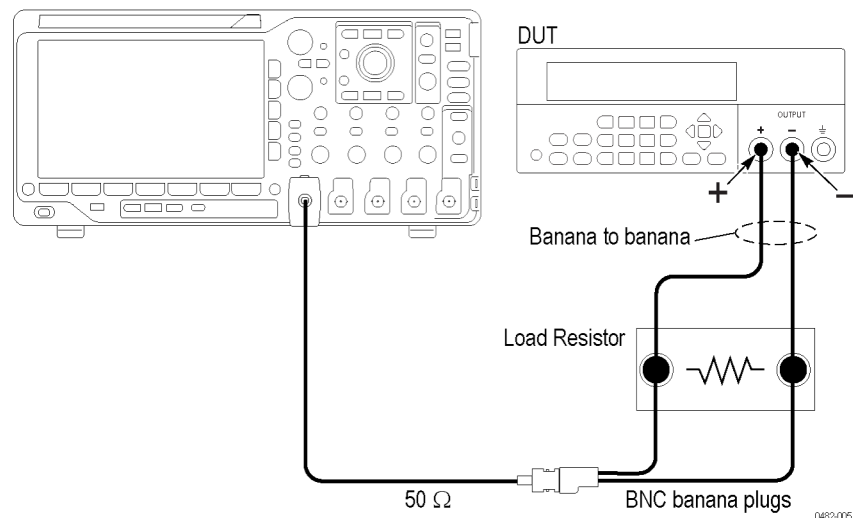

Figure 3: 20 MHz voltage noise test setup
4. Set up the equipment as shown. (See Figure 3.)